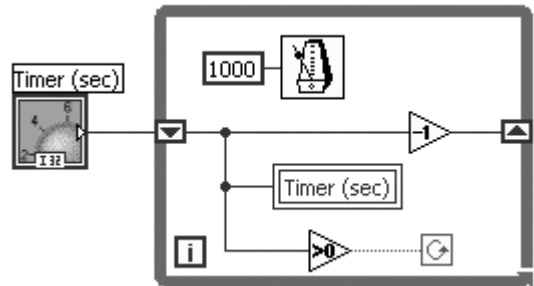

Figure 13.10
3. Build the following simple block diagram (see Figure 13.10).